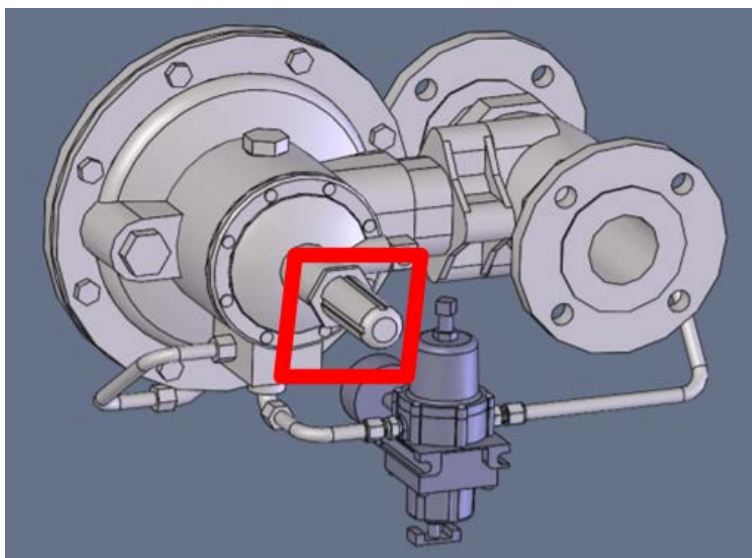

Figure 11
5. Remove the gray plastic covers from the Main Body Pilot adjustment screw from both regulators. Leave the cover on the small independent series 67 pilot assembly alone. See Figure 11.